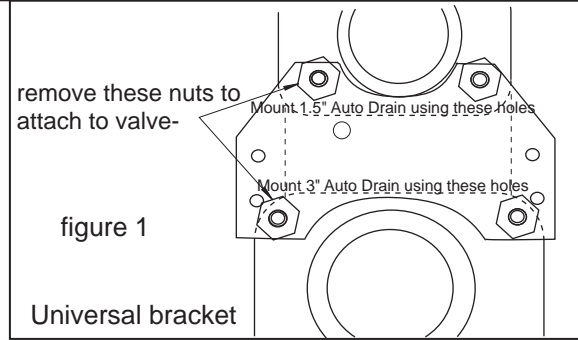
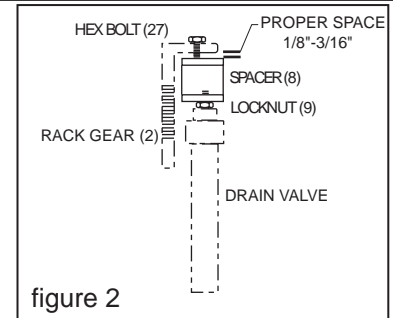

figure 1
figure 2
- Using two existing flange bolts on the Drain valve, remove nuts, align holes in Universal Bracket (10). See figure 1 for placement, replace nuts.
- Thread nut (9) and spacer (8) onto shaft, press down on spacer to make sure shaft is all the way in and valve is fully closed.
- IMPORTANT:** Before you install the Auto-Drain to the valve ensure that the safety space is provided (see figure 2). This space is needed so that the valve will fully close without jamming the electrical mechanism and damaging the Auto-Drain. To set this ensure valve and Auto-Drain are in the fully closed position. Place the mounting rib on the back of the Auto-Drain to the top of the universal mounting bracket (10), thread spacer (8) up or down on the valve shaft as needed to achieve the space as in figure 2. Once space is set, lock nut (9) to spacer (8) then attach Auto-Drain to bracket by installing screws (12), washers (20) and lock nuts (14). Install bolt (27) and tighten pulling spacer up to the rack gear, ensure spacer and shaft DO NOT turn freely.